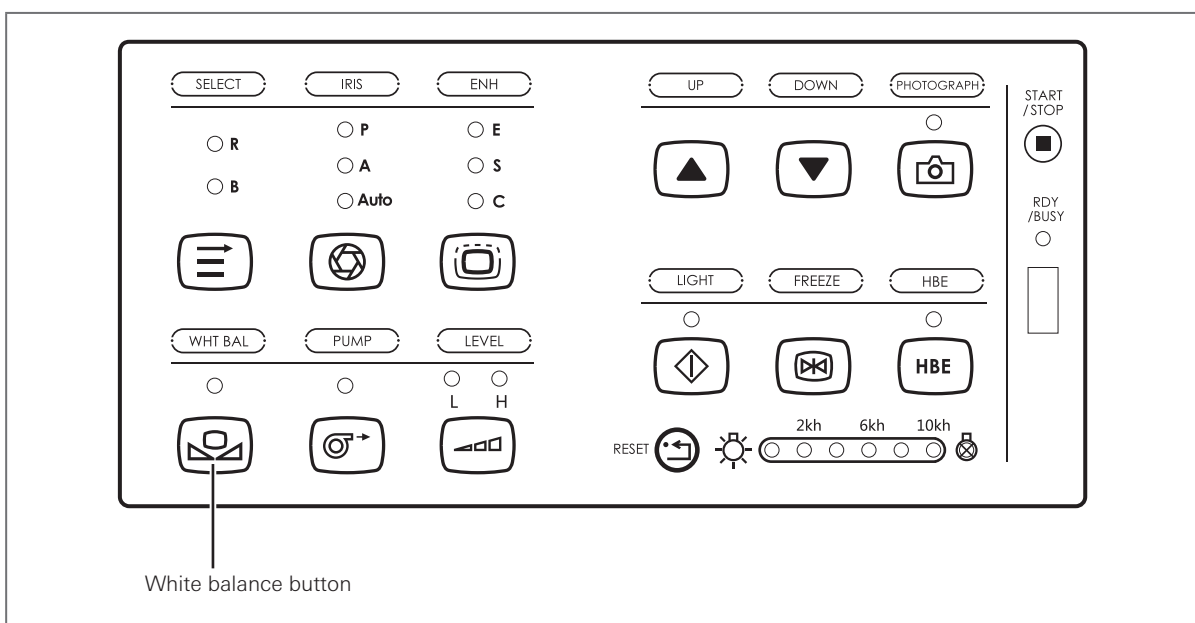

Figure 4.4
4. Press and hold the white balance button for at least two seconds (see Figure 4.4). The On Screen Display (OSD) will show "WB done" on the screen which means the finish of the adjustment.